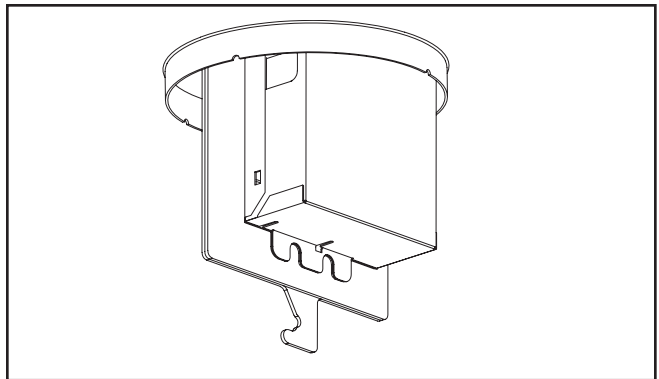

Figure 26.
7. Remove the driver via top access or through the housing aperture. The Driver Door Assembly can also be removed through the housing aperture (Figure 26.).